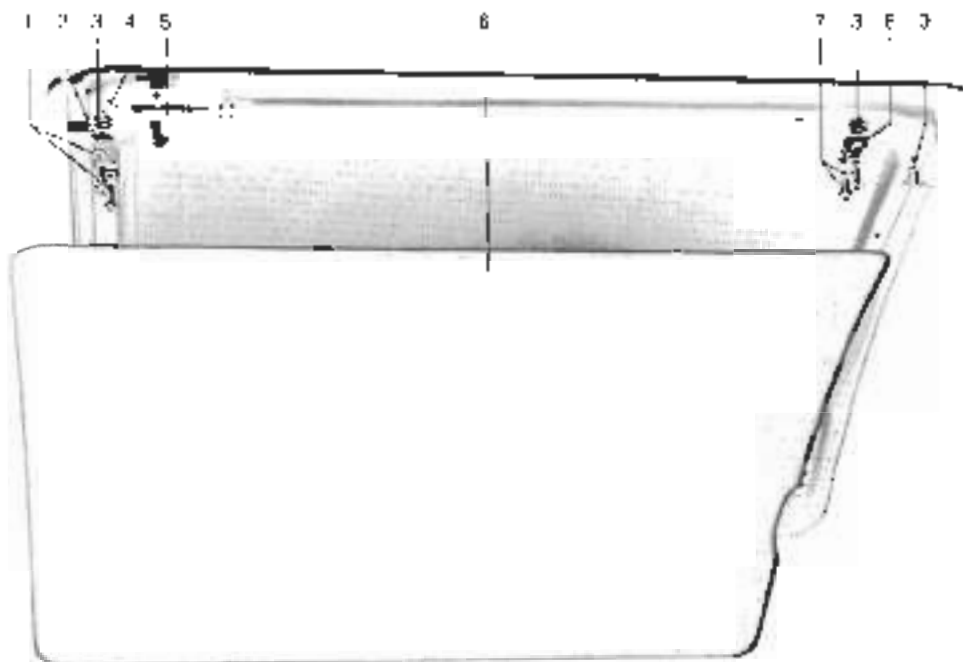

Fig. 8-1. Components of sliding roof panel (viewed from right-hand side)
- 1 Phillips head screw with spring washer (4)
- 2 Front guide (2)
- 3 Height adjusting screw (2)
- 4 Foam plug (2)
- 5 Leaf spring (swings aside as indicated by arrow) (2)
- 7 Phillips head screw with spring washer (4)
- 8 Front guide (2)
- 9 Clip for trim pane (5)
- 2 Using a wooden wedge, carefully pry the front edge of the trim panel off the sliding roof panel. Work as closely as possible to each of the five clips (see Fig 8-1).
- 5 Unhook the leaf springs from the lifters. Then swing the springs inward as indicated by the arrow in Fig 8-1.